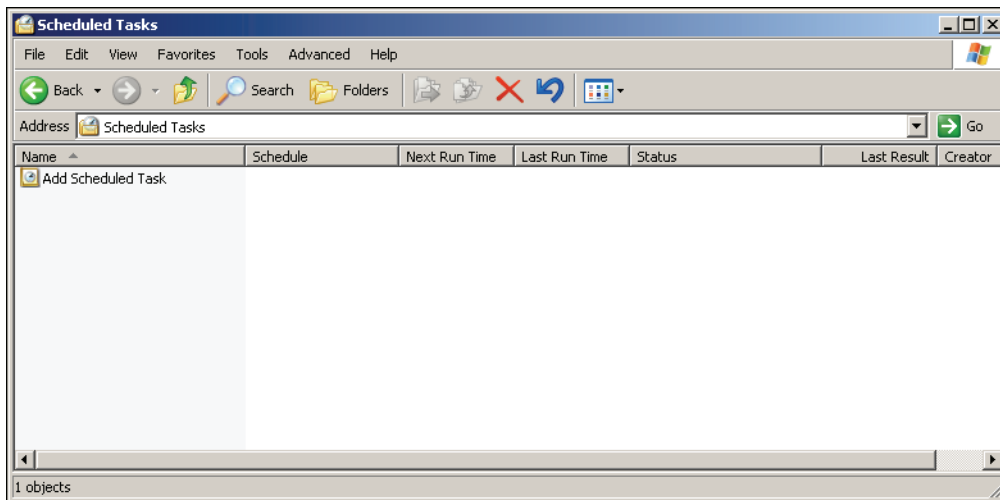

Figure 5-24: Scheduled Tasks Window
3. Double-click on the **Scheduled Task** option. The Scheduled Task window appears (see Figure 5-24).